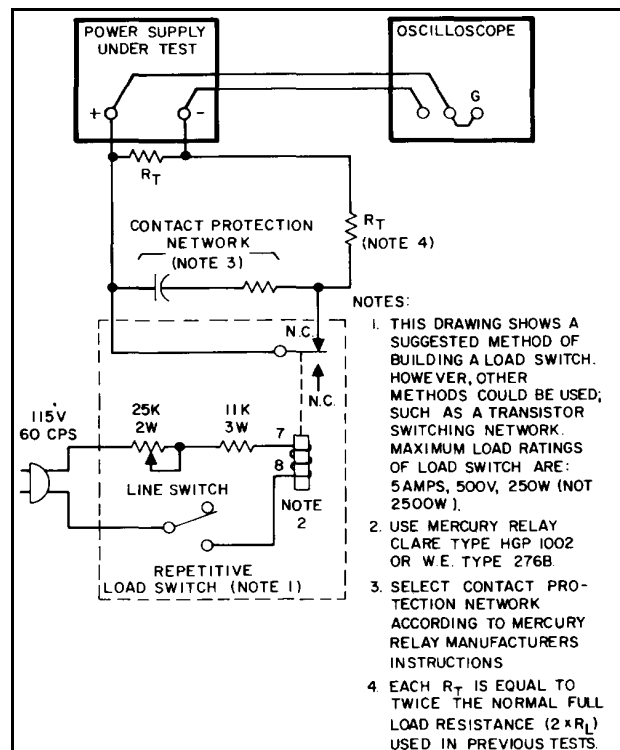

Figure 5-5. Load Transient Recovery Time, Test Setup
current changes are to be achieved. Instead, a mercury-wetted relay should be used for loading and unloading the supply. Connect it in the load switching circuit shown in Figure 5-5. When this load switch is connected to a 60 Hz ac input, the mercury-wetted relay will open and close 60 times per second. The 25K control adjusts the duty cycle of the load current switching to reduce jitter in the oscilloscope display. This relay may also be used with a 50 Hz ac input.
- a. Connect the test setup shown in Figure 5-5. Both load resistors (R_L) are twice the normal value of a full load resistance.